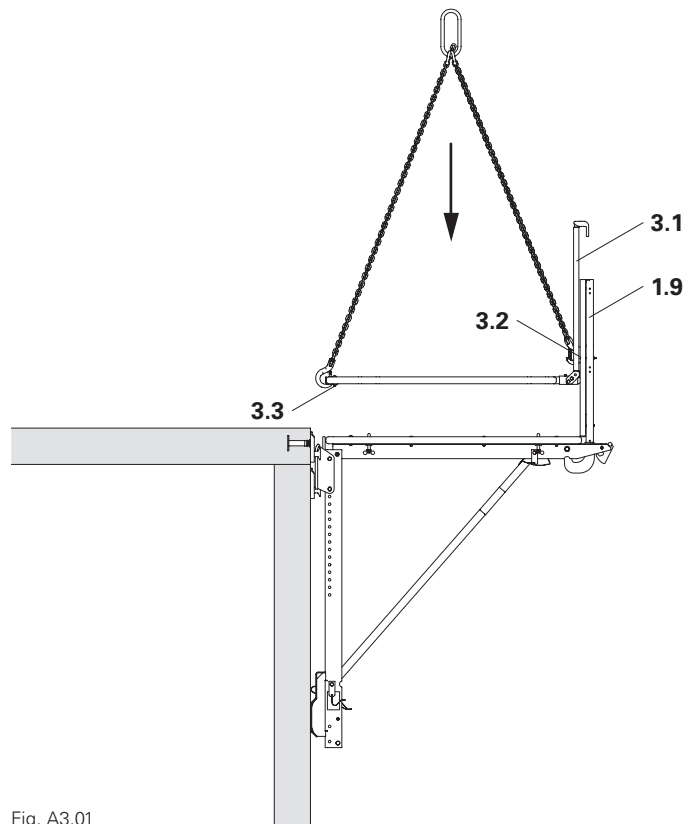

Fig. A3.01
3. Attach the 3-sling lifting gear to the load-bearing points (3.2 + 3.3). (Fig. A3.01)